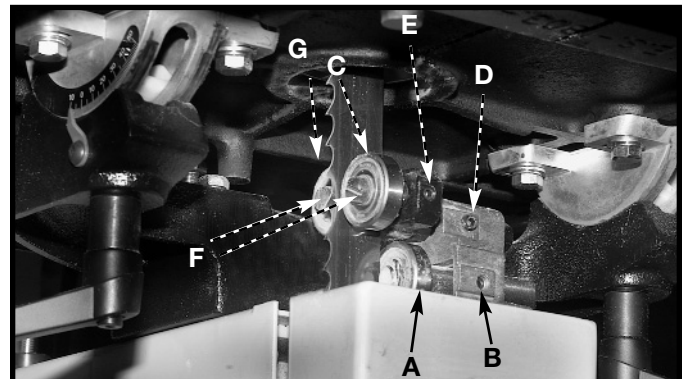

Fig. 23
The lower bearing adjustments are similar to the upper bearing adjustments. Adjust the blade support bearing (A) Fig 23 so that it is within 1/64" of, but not touching the back of the saw blade when the blade is at rest. To adjust, loosen hex screw (B) and slide the bracket in or out until the adjustment is correct. Tighten the screw. Adjust the blade guide bearings (C,G) by loosening the screw (E) and rotating the bearing on the shaft (F) so that the bearings touch, but do not pinch the blade. To gain access the back bearing (G), you will need to remove the table insert and tilt the table to the right. Return table to level position. The front edge of the guide bearings (C) should be just behind the "gullets" of the saw teeth. To adjust, loosen the hex screw (D) and slide the bearing assembly into place. Tighten the hex screw (D).